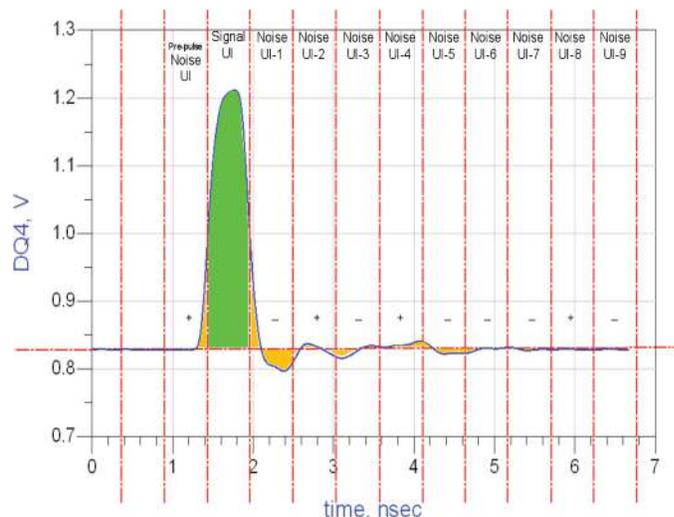

Figure 7. Pulse-response simulation result as input for the ADS optimizer
Luckily, the solution to this dilemma is just a few equations or lines of AEL code away. Instead of using a step response, a unit interval (UI) wide pulse can be used as the basis for the optimization. To begin, first normalize the pulse by voltage scaling to provide a solid basis for different input signals. If this step is not taken, different combinations of R_{on} , R_{TT} and termination voltage (V_{TT}) may shift the signal and cause the equation to fail. The next step is to separate ISI optimization from X-talk. Slice the pulse waveform into pieces smaller than the UI. Where to make the cuts will depend on the real configuration. A good approach is to center the UI around the maximum point of the pulse waveform. If a clock or strobe signal is available, the engineer might also use this as the phase information for centering the UI. The outcome is now one slice with the information on the transmitted pulse (green area) and a lot of slices with the information on pre- and post-pulse disturbances (yellow area), called ISI. Subtracting each of the ISI UI's from the transmitted-pulse UI reduces the pulse like the ISI does. As shown in Figure 7, the signal is nearly settled in the 9th UI after the pulse. Therefore, simulating 10 bits should be enough for this investigation. Trying to catch the worst-case pattern with a conventional time-domain simulation would require a PRBS simulation with a 2^{10} bit PRBS pattern.